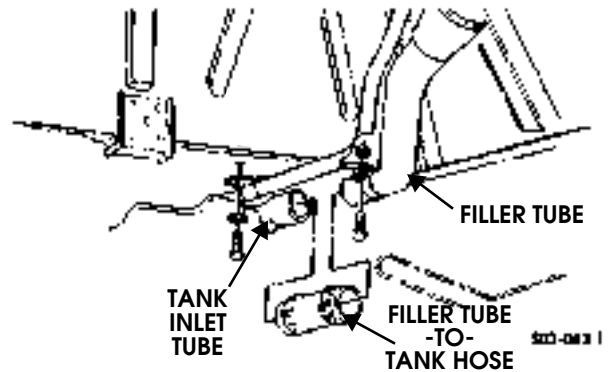

Figure 3-44: Filler Tube-To-Tank Attachment
4. Loosen clamps and remove hose from tank and filler (Figure 3-44).